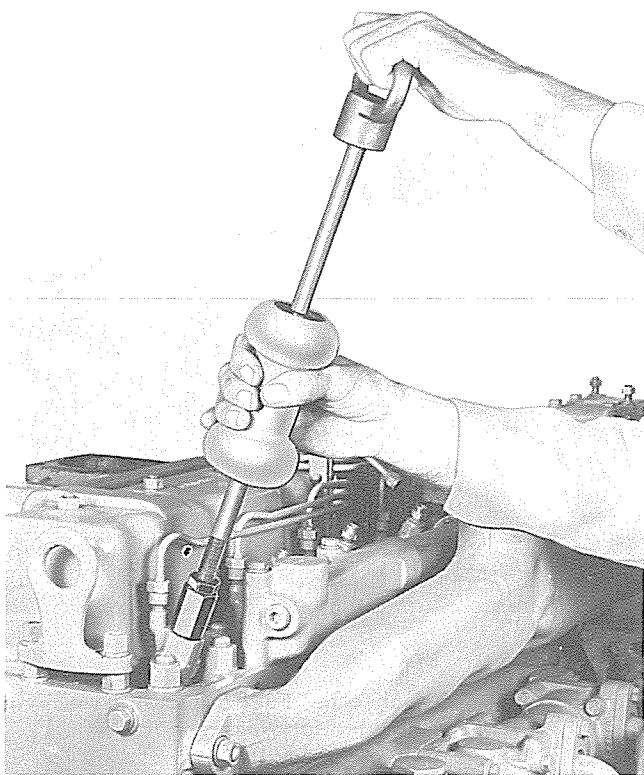
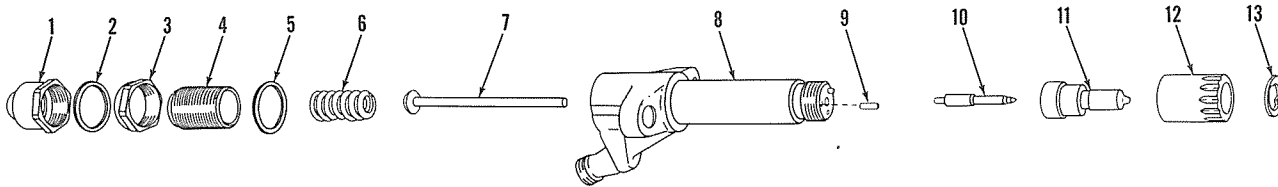

Fig. 9 — Removing Fuel Injection Nozzle-Holder
Fig. 12 — Fuel Injection Nozzle-Holder Details
4. If for any reason the nozzle-holder assembly is stuck in the cylinder head, a nozzle-holder puller adapter and slide hammer puller, Fig. 9, can be used to pull the fuel injection nozzle-holder assemblies as follows:
- a. Remove the protection cap, Fig. 12 (1) from holder and turn puller adapter onto holder as shown in Fig. 9. Make certain that puller adapter is turned onto holder as far as possible, then tighten with a wrench.
- a. Remove nozzle-holder protection cap Fig. 12 (1), and loosen the adjusting screw lock nut (3).
- b. While operating tester handle, turn the pressure adjusting screw (4) IN to increase or OUT to decrease the pressure as necessary to obtain specified "popping" pressure. When specified "popping" pressure is obtained, hold the adjusting screw with a screwdriver and tighten the adjusting screw lock nut. Install and tighten the nozzle-holder protection cap (1) and gasket (2).
When more than one fuel injection nozzle-holder is disassembled, keep parts of each separate. Complete disassembly of the fuel injection nozzle-holder is seldom necessary. In most cases only disassembly and cleaning of the nozzle assembly, Fig. 12 (10) (11) is required to place the nozzle-holder in good operational condition. The nozzle valve and nozzle valve body are mated parts, and must be kept together; if replacement of either part is necessary, both parts must be replaced as matched sets. Remove, clean, and inspect the nozzle assembly as follows;
1. NOZZLE VALVE BODY AND VALVE REMOVAL, CLEANING AND INSTALLATION (Fig. 12)
- b. Clamp nozzle-holder body (8) in a vise having copper jaws or similar protective material.
- c. Remove protection cap (1) and gasket (2) from upper end of nozzle-holder. Loosen adjusting screw locknut (3) and turn pressure adjusting screw (4) out sufficiently to release spring tension on spindle spring (6).
- d. Using a suitable socket or box wrench, loosen and remove the nozzle retaining nut (12). Remove the nozzle valve body (11) and nozzle valve (10) from the retaining nut (12). Start the nut back onto the holder body to protect the lapped end of the holder body.
- e. Withdraw the valve from the valve body and place them in Allis-Chalmers carbon and rust remover solution for cleaning. Normally, the valve can easily be withdrawn from the valve body, however, in some cases it may be necessary to soak the valve body (11) and valve (10) in the carbon and rust remover solution before the valve can be withdrawn.
- n. Make certain that the bottom flat sealing surface of the nozzle-holder body is clean and in good condition. Rinse the valve and valve body in clean diesel fuel, then insert valve into position in valve body. Place the nozzle in position on the two dowels of the nozzle-holder body. Lower the nozzle retaining nut Fig. 12 (12) into position over the valve body. Tighten nut to a torque of 40 — 60 lbs. ft.
- a. Clamp nozzle-holder assembly in a copper jawed vise and remove the protection cap, Fig. 12 (1) and gasket (2) from upper end of nozzle-holder. Loosen and remove the adjusting screw locknut (3) and gasket (5).
- b. Remove pressure adjusting screw (4), spindle spring (6) and spindle (7).
- c. Remove nozzle retaining nut (12), nozzle valve body (11) and nozzle valve (10).
- d. Place all parts in clean diesel fuel. Using filtered compressed air, blow out the fuel passages in the holder body (8).
- g. Rinse spindle (7) in clean fuel and insert it into holder body (8). Place the spindle spring (6) in position on spindle. Install pressure adjusting screw (4), pressure adjusting screw locknut (3) and gasket (5), protection cap (1), and gasket (2), but do not tighten at this time as the nozzle-holder must be placed on a nozzle tester and adjusted for the specified "popping" pressure.
- h. Install nozzle valve (10), valve body (11), and nozzle retaining nut (12). Tighten nut to a torque of 40 — 60 lbs. ft.
- j. Tighten the protection cap (1) to a torque of 75 — 90 lbs. ft.
1. Thoroughly clean the inside of the nozzle-holder sleeves before installing the nozzle-holders. When cleaning the nozzle sleeves, make certain that the old nozzle-holder gaskets are removed from the sleeve as new gaskets, Fig. 12 (13), must be used when installing the